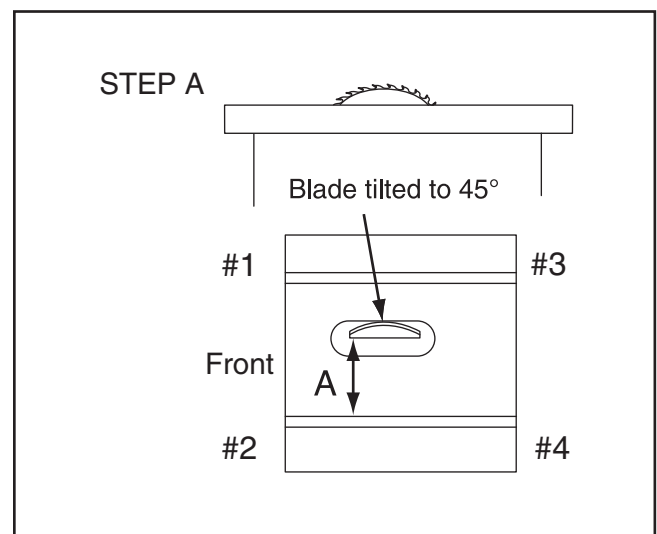

Figure 114. Shim procedure diagram A.
10. Refer to **Figures 114–115** for shim placement. If distance of A is shorter than B, shim(s) will need to be placed under corners #1 and #2. If distance of B is shorter than A, shim(s) will need to be placed under corners #3 and #4. Very thin shim stock works well.